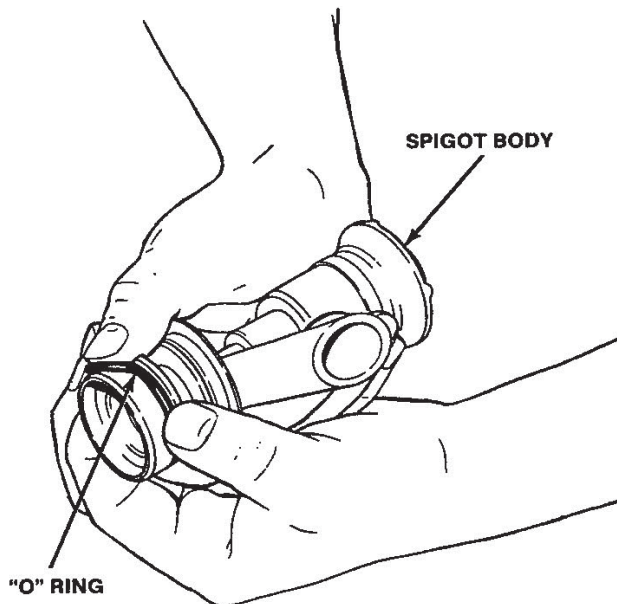

Figure 14. Removing Spigot "O" Ring from Spigot Body
2. With a clean dry towel, wipe excess lubricant from the spigot assembly and "O" Ring. Firmly grasp the spigot assembly with both hands and squeeze the "O" Ring upward (Fig. 14). When a loop is formed, roll the "O" Ring out of the groove toward the end of the spigot assembly.